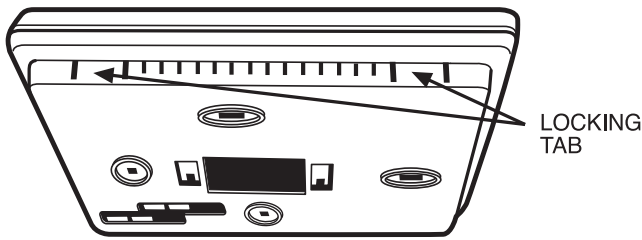
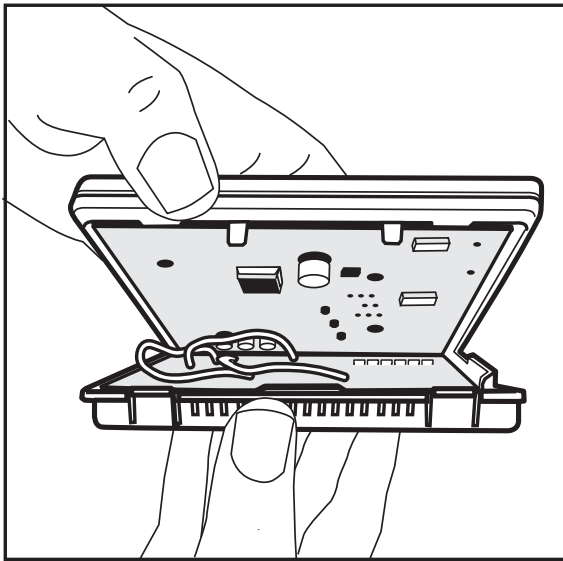

Fig. 1 — Locking Tab Location
Fig. 2 — Mounting Plate Removed
3. Remove mounting plate from back of display module by pressing the two tabs on the bottom edge and pulling away. See Fig. 1. Figure 2 shows the mounting plate removed from the module.